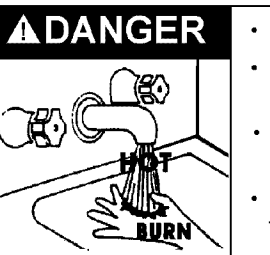

**FIGURE 31.**
When checking the temperature-pressure relief valve operation, make sure that (1) no one is in front of or around the outlet of the temperature-pressure relief valve discharge line, and (2) that the water discharge will not cause any property damage, as the water may be extremely hot. See Figure 31.